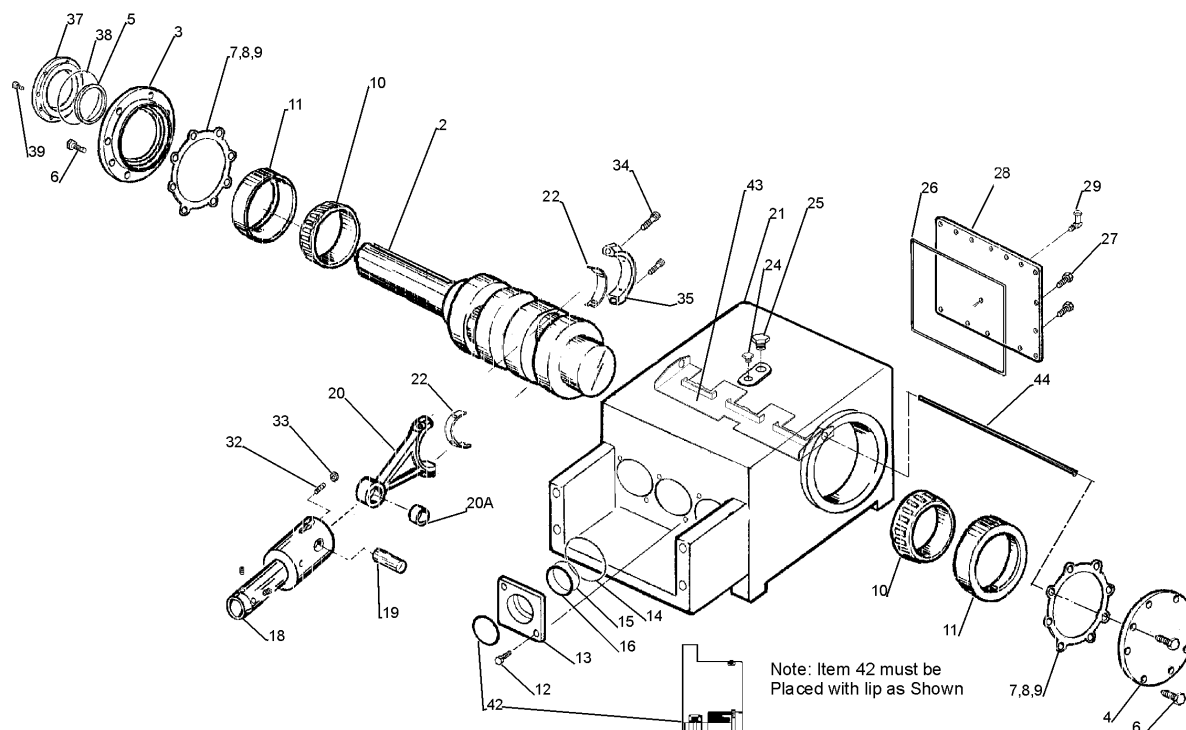

Figure 56 Crank Case
Table 8: Callouts for Figure 56
9. Remove connecting rod socket head capscrews and caps. Push connecting rods forward as far as they will go. (See Figure 56 item 34, 35.)
due to the fact that they are pressed on) (See Figure 56 item 10 and 11). Place the bearings and shims with the caps so they will be reinstalled in their original positions, (if same roller bearings and crankshaft are to be reinstalled.)
To remove the journal bearings, pry them out of connecting rods and connecting rod caps. (See Figure 56 item 20, 22 and 35) Keep cap and rod together: to be installed in the same opening as removed from.